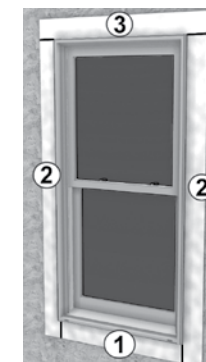

Figure 4
- (Recommended)** Following the flashing manufacturers' recommendations, apply flashing to the nail fins and surrounding wall surface starting with the bottom, then the sides, and finally the top, creating a shingle effect (reference **Figure 4**).